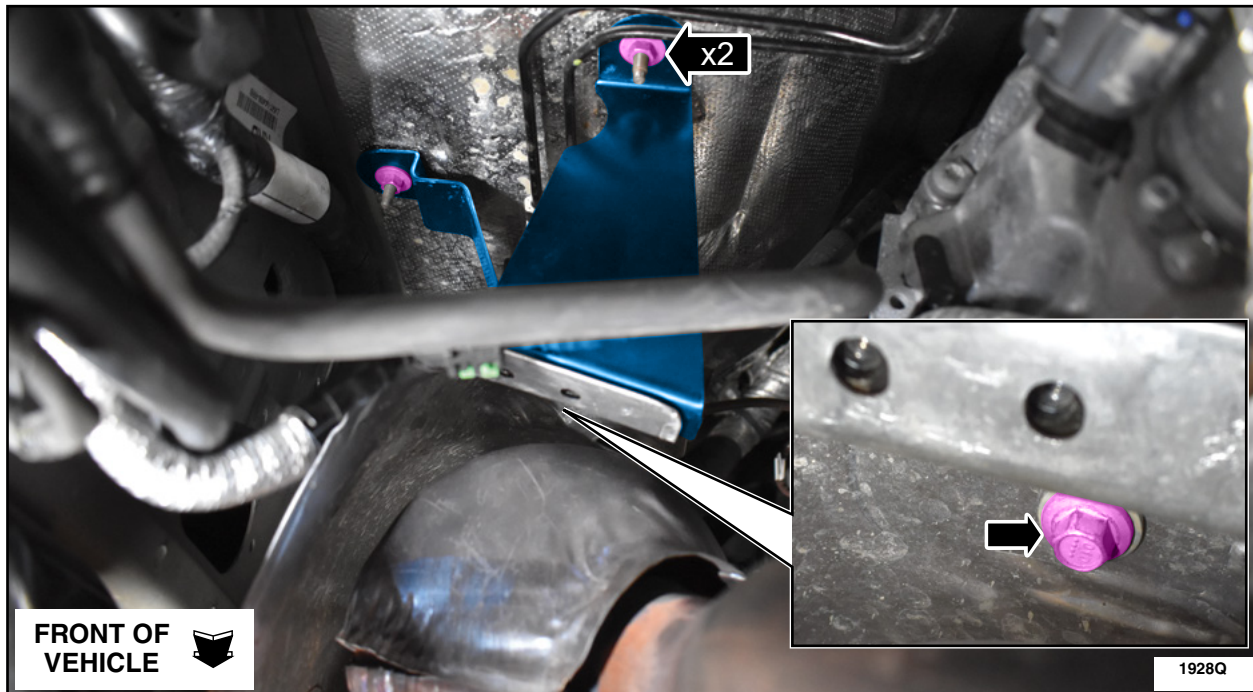

FIGURE 20
21. Install the heat shield bracket and retainers. See Figure 20.